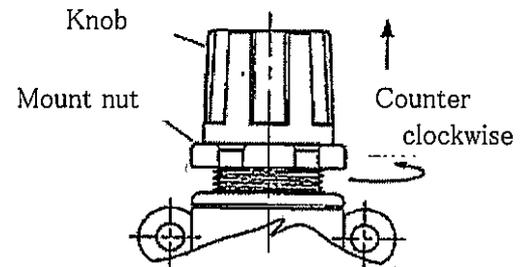

Figure 1
- 2) To use an optional panel mount "P", drill a $\phi 19$ diameter mounting hole. Remove the knob of the mount by turning it counterclockwise as shown in Figure 1, and insert the regulator in the panel. If the screw comes off when the knob is removed, insert the screw in the knob or cover as shown in figure 2, and push the knob into the cover until a "click" is heard.